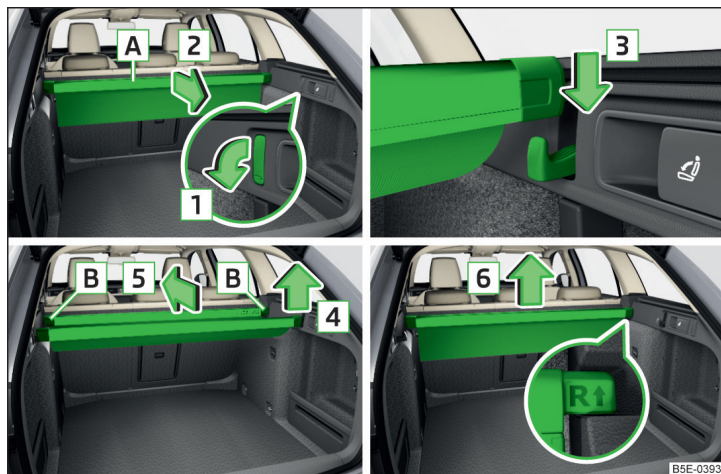

Fig. 110 Pull out / insert / push in / remove multi-function pocket
- Fold down the front hooks on both sides of the luggage compartment in the direction of arrow **1** » Fig. 110.
- Remove the rear bar from the hook in the direction of the arrow **4** » Fig. 110.
- Remove the multi-function pocket from the recesses in the direction of the arrow **6** » Fig. 110.